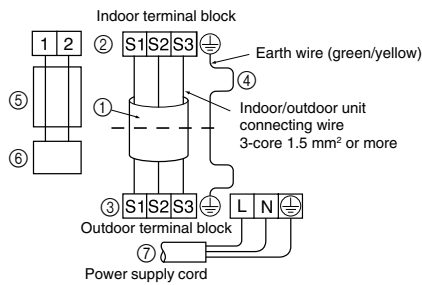

Fig. 7-4
- Perform wiring as shown in the diagram to the lower left. (Procure the cable locally). (Fig. 7-4)